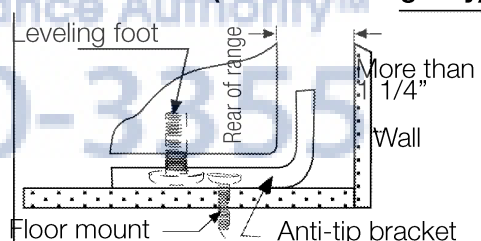

Fig. 3
1. The anti-tip device has to be attached to the floor as shown in figure 3. The dimension for the bracket location from the floor is determined after the appliance feet have been adjusted to the proper installation height shown in the instructions and the appliance has been leveled.